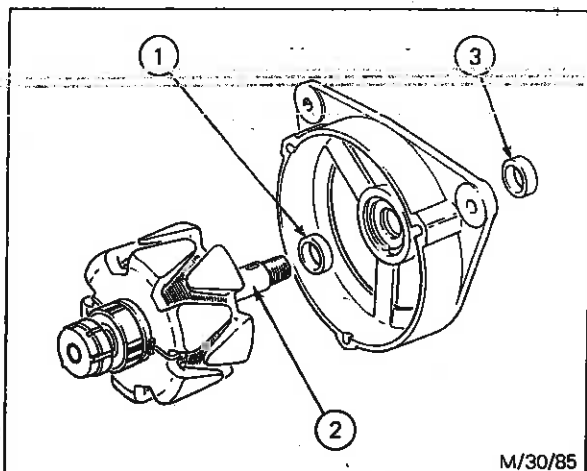

Fig. 38 - Assembling Rotor and Drive End Bracket
1. Position the rotor spacing collar (1) on the shaft (2) - see Fig. 38. Press the rotor shaft through the drive end bearing and (where applicable) slide the fan spacer (3) onto the shaft, recess side towards bearing.